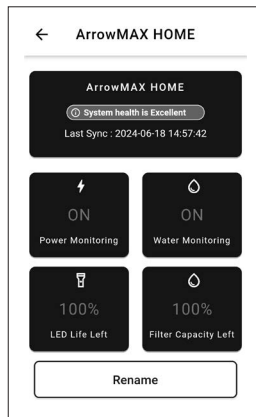

Figure 14: The Data & Stats
- c. Upon successful activation of the device, the following homepage will be shown with all the data and stats from the device. This is a living page that will be updated regularly when the device is connected to your phone through WIFI or Bluetooth. (SEE FIGURE 14.)